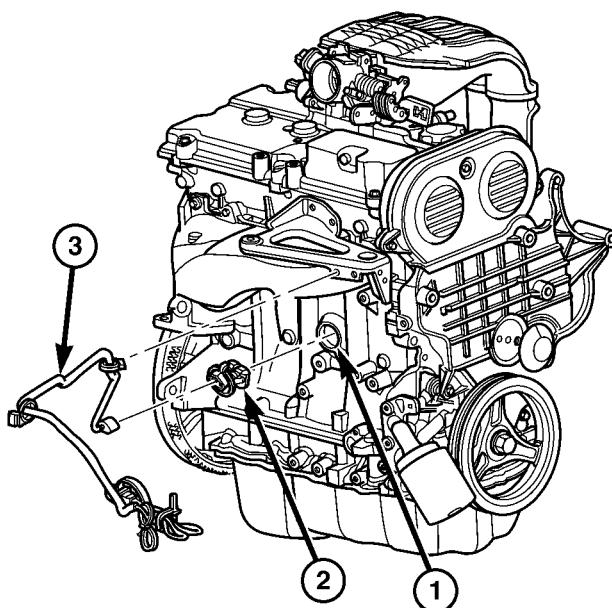

Fig. 5 ENGINE BLOCK HEATER 2.4L
- (1) Thoroughly clean core hole and heater seat.
- (2) Insert heater assembly (Fig. 5) with element loop positioned upward .